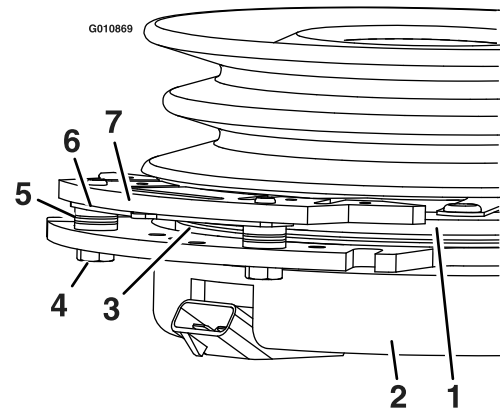

**Figure 64**
3. Remove the dust cap from caster and tighten the lock nut (Figure 64).
4. Tighten the locknut until the spring washers are flat, and then back off a 1/4 turn to properly set the preload on the bearings (Figure 64).
**Important:** Make sure that the spring washers are installed correctly as shown in Figure 64.
5. Install the dust cap (Figure 64).